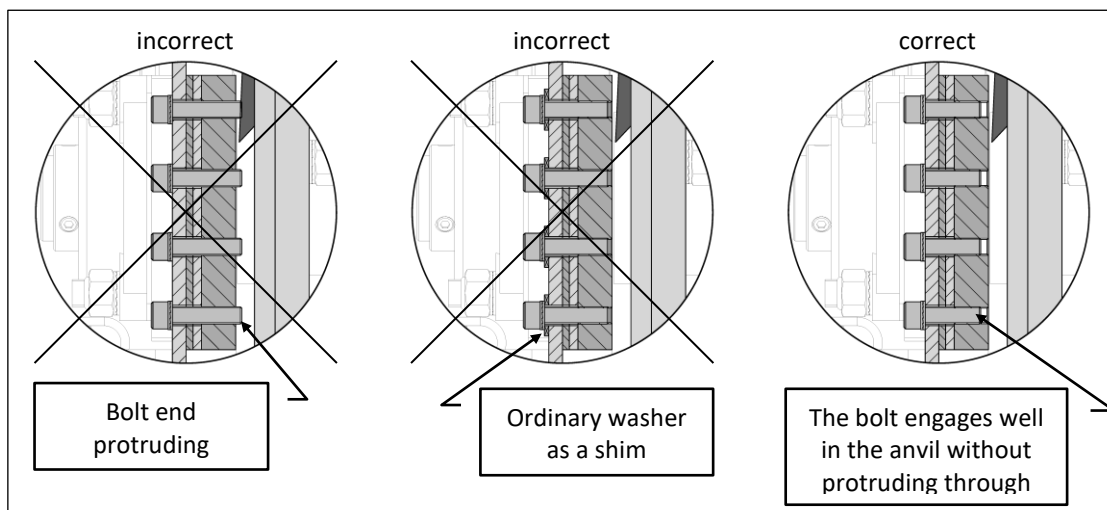

Figure 28
7. After the first bolt has been inserted and tightened, check that it does not protrude beyond the anvil on the opposite side. If the bolt protrudes through the side anvil, choose a shorter bolt or shorten it. This can be done, for example, by filing or grinding it down a little so that the bolt end is flush with the side anvil. Do not use washers as shims to limit how much the bolt protrudes through, as this will prevent the NordLock washers from working properly. Also, do not use bolts that are too short. Also see Figure 28 for the correct installation.